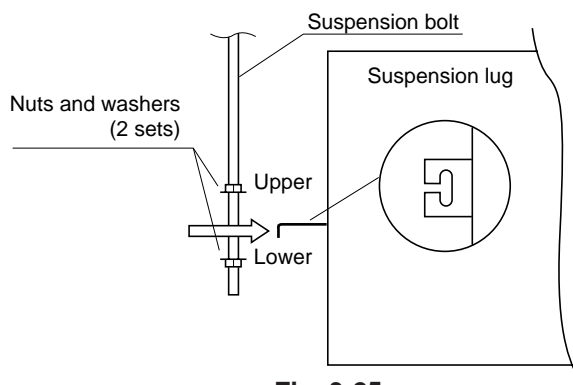

Fig. 3-25
- (2) Thread the 2 hexagonal nuts and washers (field supply) onto the 4 suspension bolts as shown in Fig. 3-25. Be sure to use 2 sets of nuts and washers (upper and lower), otherwise the unit may fall off the suspension lugs in the event of an earthquake.